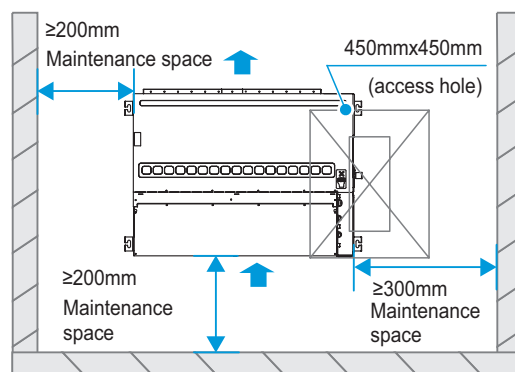

Figure 1
- ✓ There is enough space for installation and maintenance. (Refer to Figure 1)